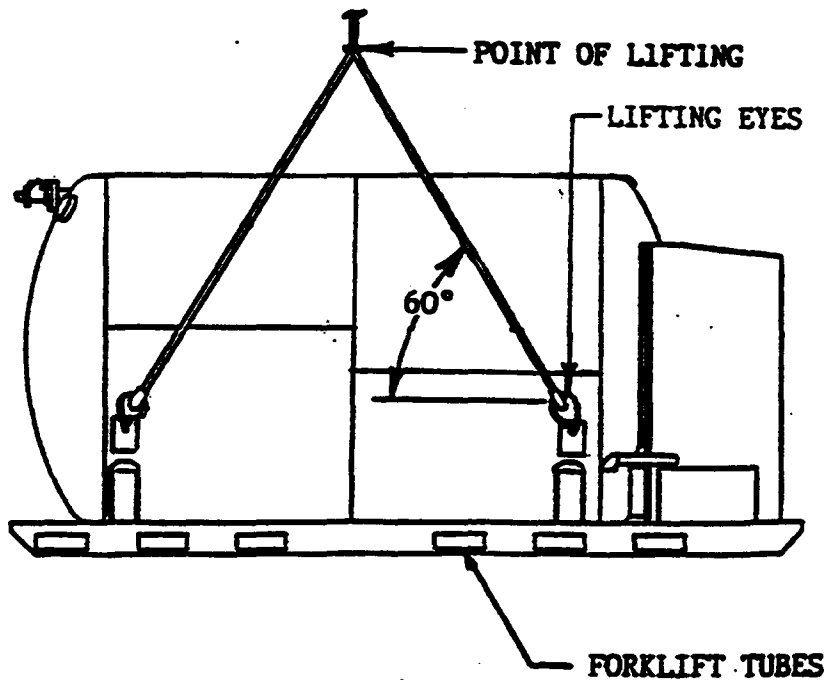

Figure 3-2. Lifting Instructions.
3-7.1 Lifting and Moving Methods. (See Figure 3-2). The Tank can be lifted and moved by two (2) methods as follows: